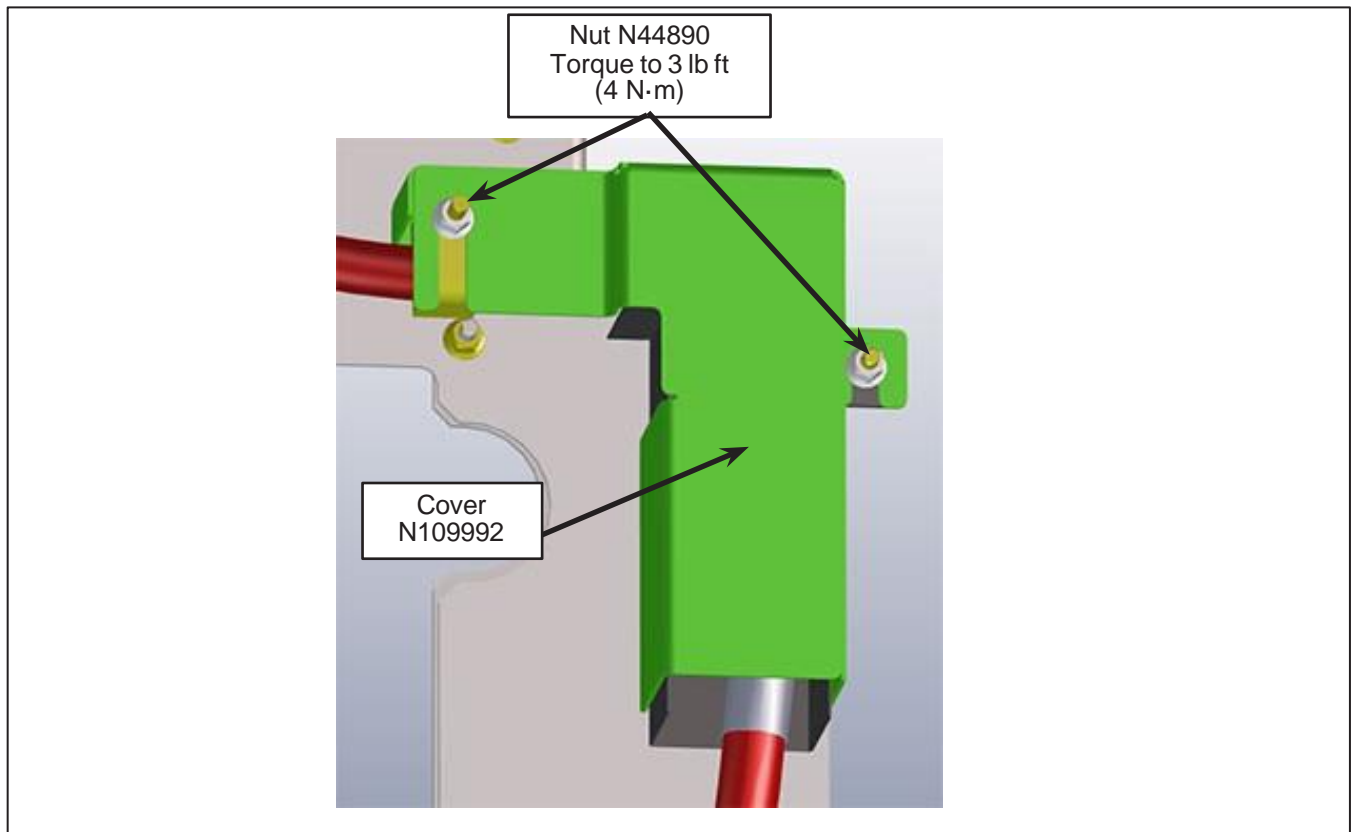

Figure 13 - Cover N109992 Installation
1.37. Install the new fuse holder cover N109992 using N44890 M6 nuts. See Figure 13.